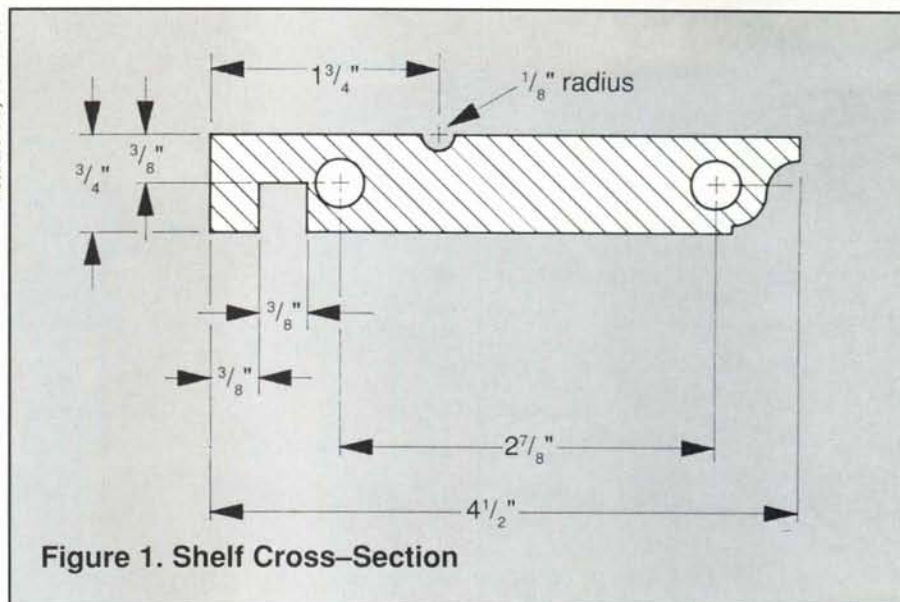

Figure 1. Shelf Cross-Section
Now cut out the shelf (B) according to the dimensions given in the cutting list. The overall length of the assembly can be any length you like, but it should be extended in increments of 1-1/2" so the dentil moulding will look right. Of course, the other parts will have to be cut to the same length as well. Rout the moulding profile on the shelf's front edge, and cut the plate groove on the top surface. Next set up the table saw to cut a 3/8" X 3/8" groove on the lower surface with the furthest edge 3/4" from the back edge of the shelf as shown in Figure 1. This groove is to accept the